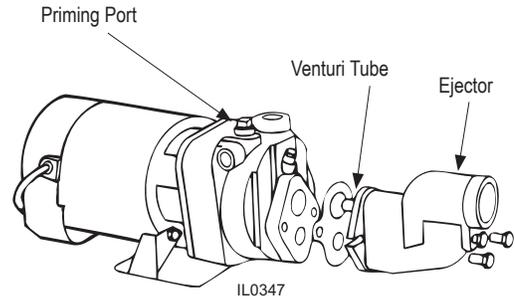

FIGURE 1
1. Attach ejector to face of pump with two (2) bolts and gasket provided. Venturi tube on the ejector inserts in the top tapping of the face of the pump (Figure 1).